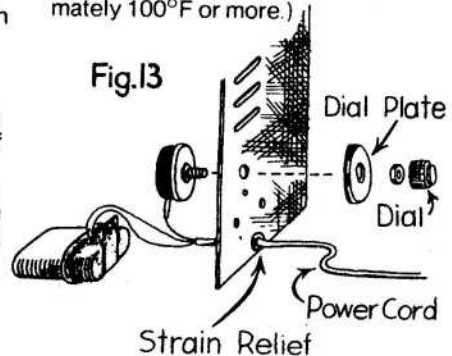
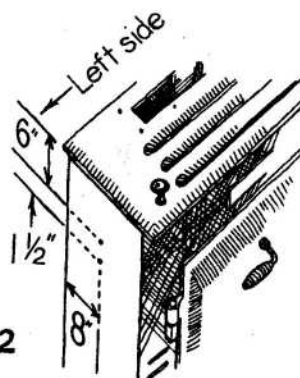

Fig. 13
Fig. 12
5. Drill two $\frac{3}{64}$ " holes. secure the thermdisc with two screws (0704.) (Figure 12) (Skip to step 7)
6. Decide on which side of the stove to place the controls. (Figure 12), is for left side mounting; for right side mounting, proceed with that in mind.) Drill two $\frac{3}{64}$ " holes. Secure the thermdisc with two screws (0704.) (Figure 13). Remove the plastic coating from the face of the rheostat dial. The threaded shaft of the rheostat should have a nut on it already. Remove the nut. On the same face of the rheostat is a small anti-rotational tab. This tab and the threaded shaft match holes in the side trim panel and rheostat dial.
Line up the rheostat with the holes in the side trim panel and rheostat dial. Then hand tighten the dial onto the rheostat with the nut. Look at the back of the rheostat knob and slide it onto the shaft. According to the flat side of the shaft. (Figure 13) The power cord should be located in the bottom of the side panel by forcing the strain relief, which you have attached to the cord, into the appropriate hole.